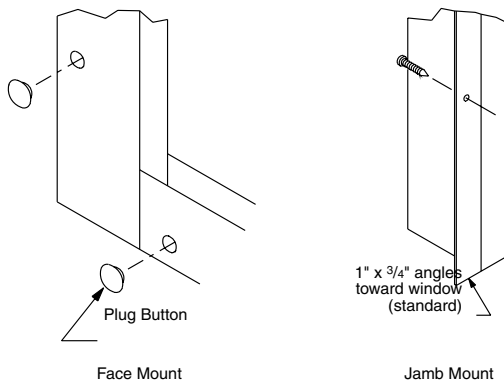

Figure 8
- B. For face mount, side channel mounts on the surface of the wall. Fasteners go through the side channels. Plug buttons should be used to cover holes (access and mounting holes will be pre-drilled) (see Fig. 8).
Fasteners will go through the mounting flange (see Fig. 8).